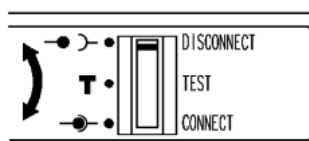

Fig. 11-7
- ④ Keeping the OFF button pushed, insert the drawout handle. Make sure that the drawout position indicator shows "DISCONNECT" (Fig. 11-7).